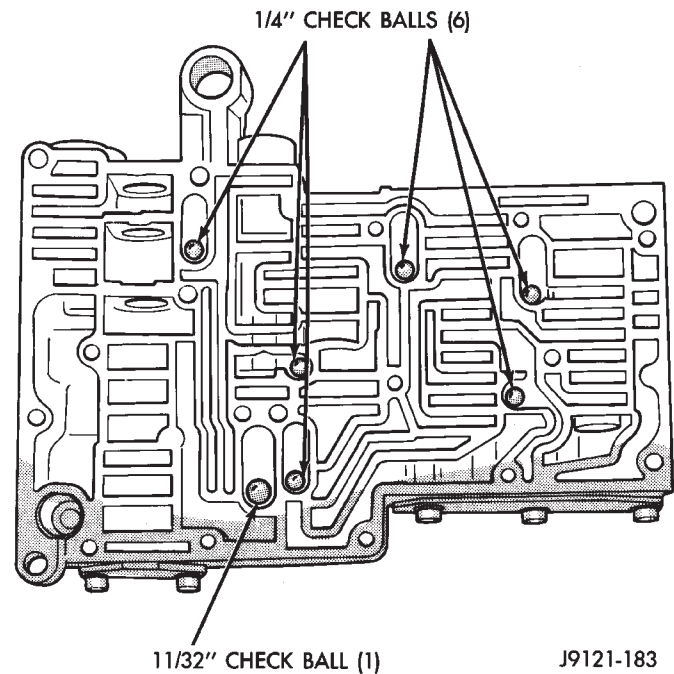

Fig. 62 Correct Position Of Valve Body Check Balls
(25) Place one 11/32 in. check ball and six 1/4 in. check balls in the proper cavities in the valve body (Fig. 62).